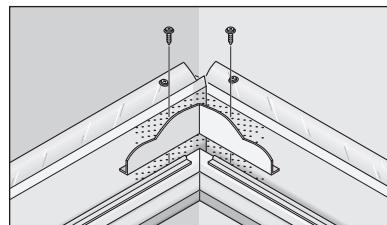

Fig. 5
**NOTE:** To prevent overflow, all inside corners and valleys must have a water diverter/deflector, sold separately. Diverter/deflector must be installed on the top surface of the Leaf Relief behind front lip. (Figure 5)